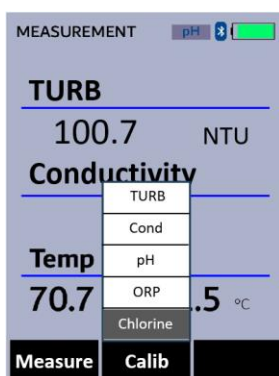

Figure 36.
3. Press **Calib** (**>**) as needed to highlight **Chlorine** calibration in the selection menu (Figure 36).